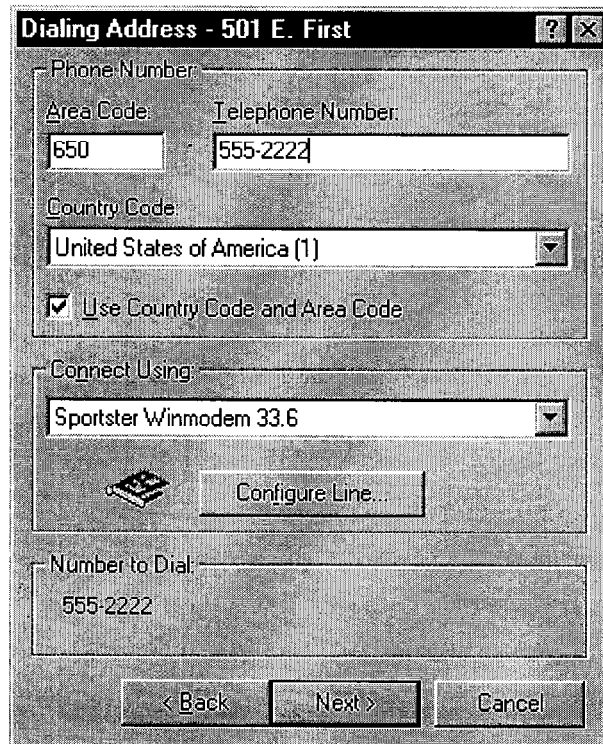

Figure 11.8 Dialing Information for the Remote Link
8. Provide the dialing information as shown in figure 11-8.